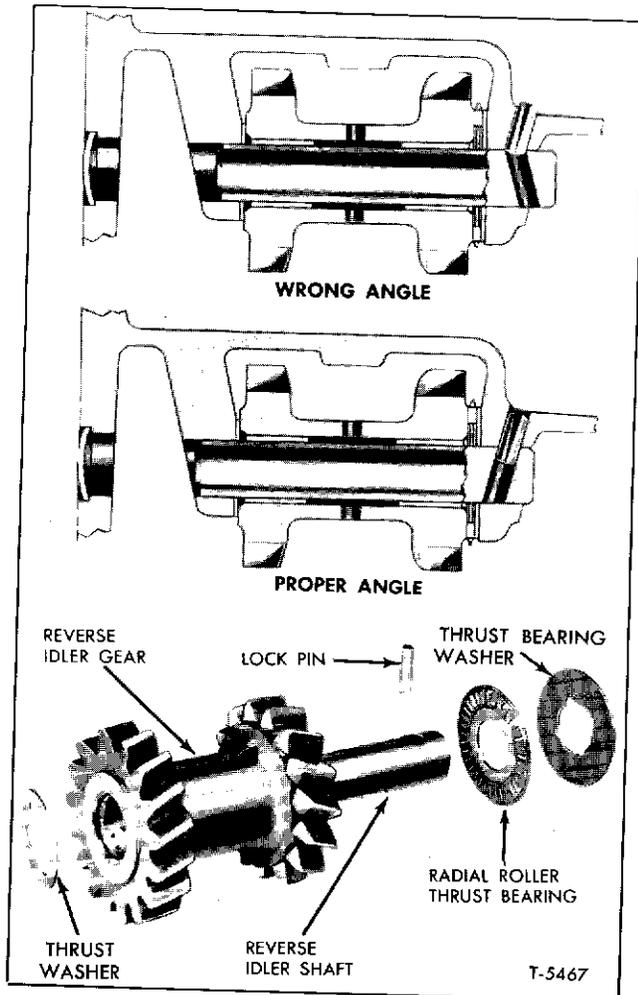

Figure 12—Reverse Idler Gear Shaft and Lock Pin
1. Hold reverse idler gear (20), front and rear thrust washers (17), and thrust bearing (18) between bosses in transmission case. Gear teeth rounded ends must be toward rear of case. Referring to figure 12, note angle of pin hole in idler shaft (16) when installed. With shaft aligned accordingly, and with lock pin hole toward rear of
2. Move idler gear shaft into place with hole aligned with pin hole in case. Recheck angles of hole in case and shaft to see if they are aligned as shown in figure 12.
3. Use a new idler shaft lock pin (19), coat pin with Permatex and drive it in approximately 1/16" beyond flush with case;peen hole in case slightly. Lock pin must be a tight fit in transmission case to prevent lubricant leakage.